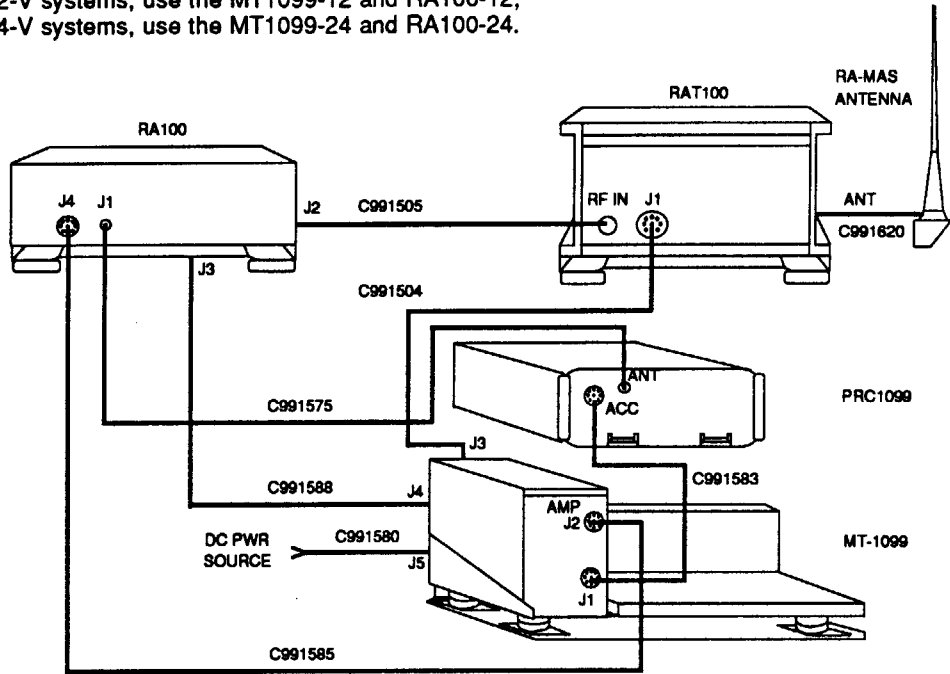

FIGURE B-9.
- a. The PRC1099 can be used in a mobile configuration with the RA100 power amplifier as shown in Figure B-9.
5. Hook up the correct cables as shown in Figure B-9.
Referring to Figure B-9, cable C991580 going between the vehicular power source and the MT-1099 must be replaced with cable C991614. This cable connects the MT-1099 to the UPS100.